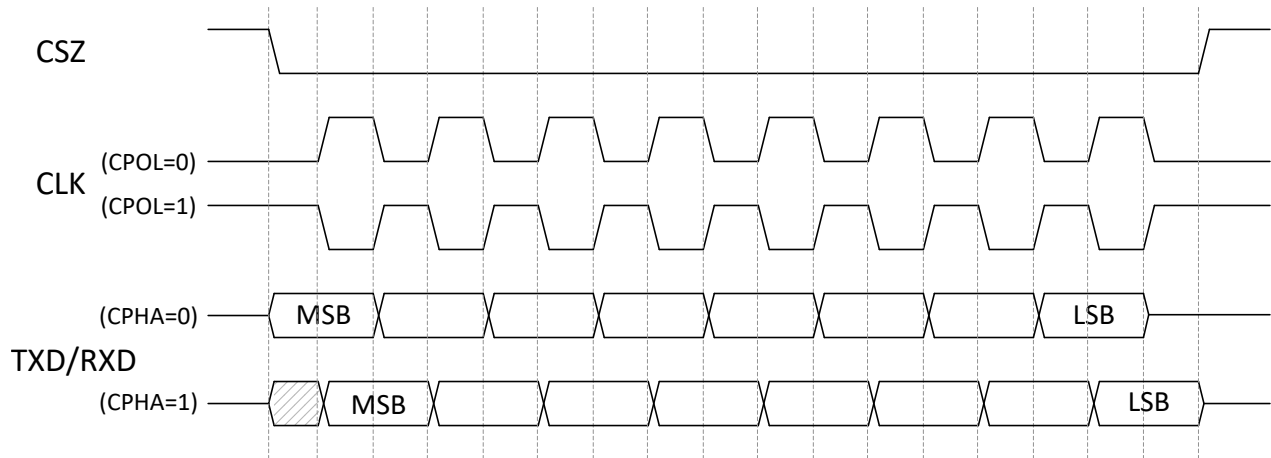

Figure 6-15. Timing Diagram for SPI Clocking Modes
- (1) The DLPC6540 SPI interfaces support SPI Modes 0, 1, 2, and 3 (that is, both clock polarities and both clock phases) as shown in Table 6-2 and Figure 6-15. As such, each SPI interface configuration must be setup to match the SPI mode being used.